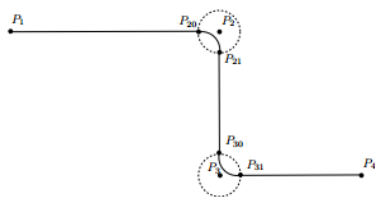

Figure 3-43 Blending tolerance
- 1.7. **Blend Tolerance**: Rounding radius, see **Figure 3-43** below.